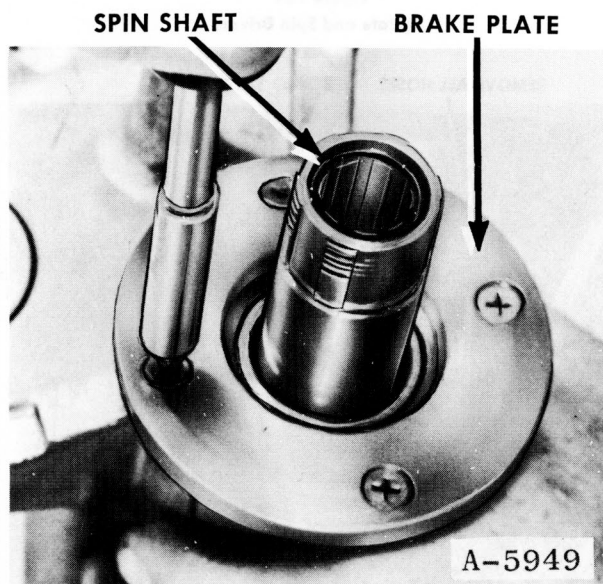

Figure 121
6. Remove the four screws that mount the brake plate to the mechanism support housing, Fig. 121.